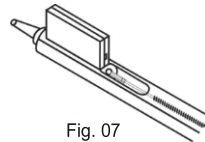

Fig. 07
- Load the cartridge into the injector as shown in Fig .07 only if there is no gap between the shutters.